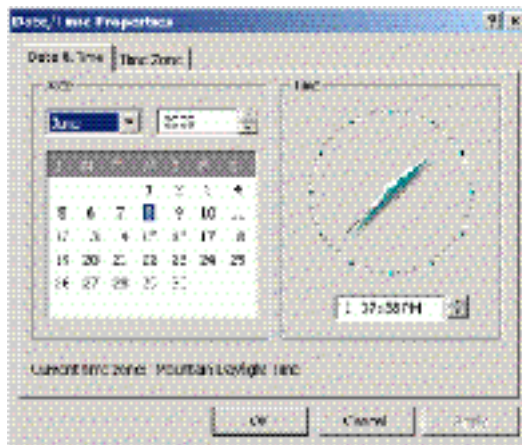

Figure 2-22 Date/Time Properties Dialog Box (Date & Time Tab)
4. Click the *Date & Time* tab. The *Date/Time Properties* dialog box appears with the *Date & Time* page open (Figure 2-22).